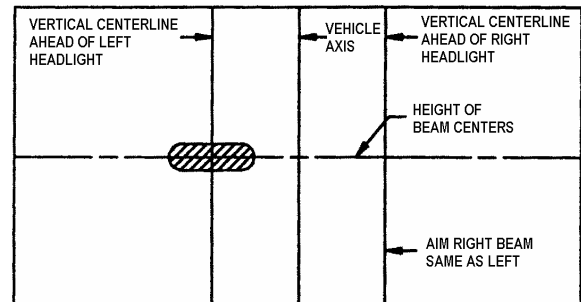

FIGURE 47: HIGH-INTENSITY ZONE (SHADED AREA) OF A PROPERLY AIMED UPPER BEAM ON THE AIMING SCREEN 7.6 M (25FT) IN FRONT OF VEHICLE 06503
5. High beam headlights are aimed so that the center of the high-intensity zone is located at the horizontal and straight ahead vertically (Figure 47).